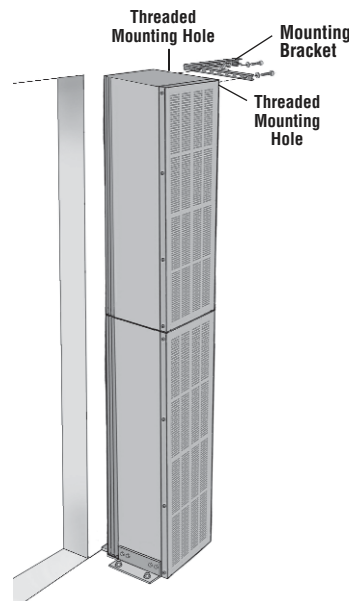

Fig. 35
2. To secure the air curtain at the top, we recommend using a wall bracket. (See Fig. 35) Loosely attach the bracket to the unit by screwing bolts with washers into the two (2) threaded mounting holes at the top of the unit. With the back brace of the bracket flush to the wall, mark two (2) mounting holes 1 & 2. (See Fig. 36)
To make an adjustment to the air flow angle, you will need to reposition the outlet nozzle vane. Slightly adjust the vane to the proper angle by wrapping a rag around it to prevent scratching, and grip the vane with a pair of channel locks. (See Fig. 35). Rotate the vane in the proper direction. Repeat this process on the other side of the unit. The angle of the air flow should never exceed 20°.